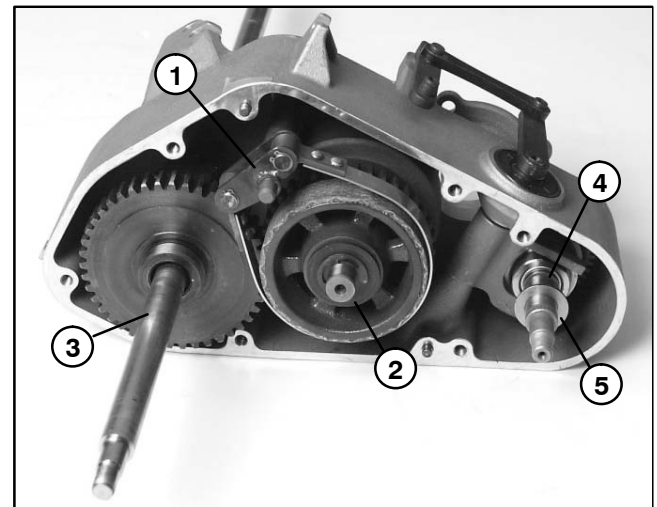

Figure 42
7. Pull gearbox cover from gearbox base taking care not to dislodge shafts from base. Locate thrust washer that fits on cover end of clutch shaft (Fig. 42). Remove and discard gasket.